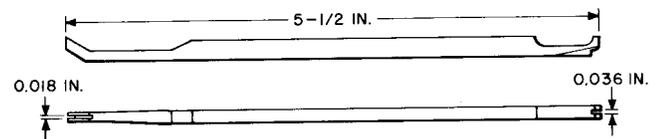

Fig. 12—R-2753 Adjuster Tool
2.12 **R-2753:** The R-2753 adjuster tool (Fig. 12) is used for adjusting cover springs on the AF-, AG-, AJ-, and AK-type relays.